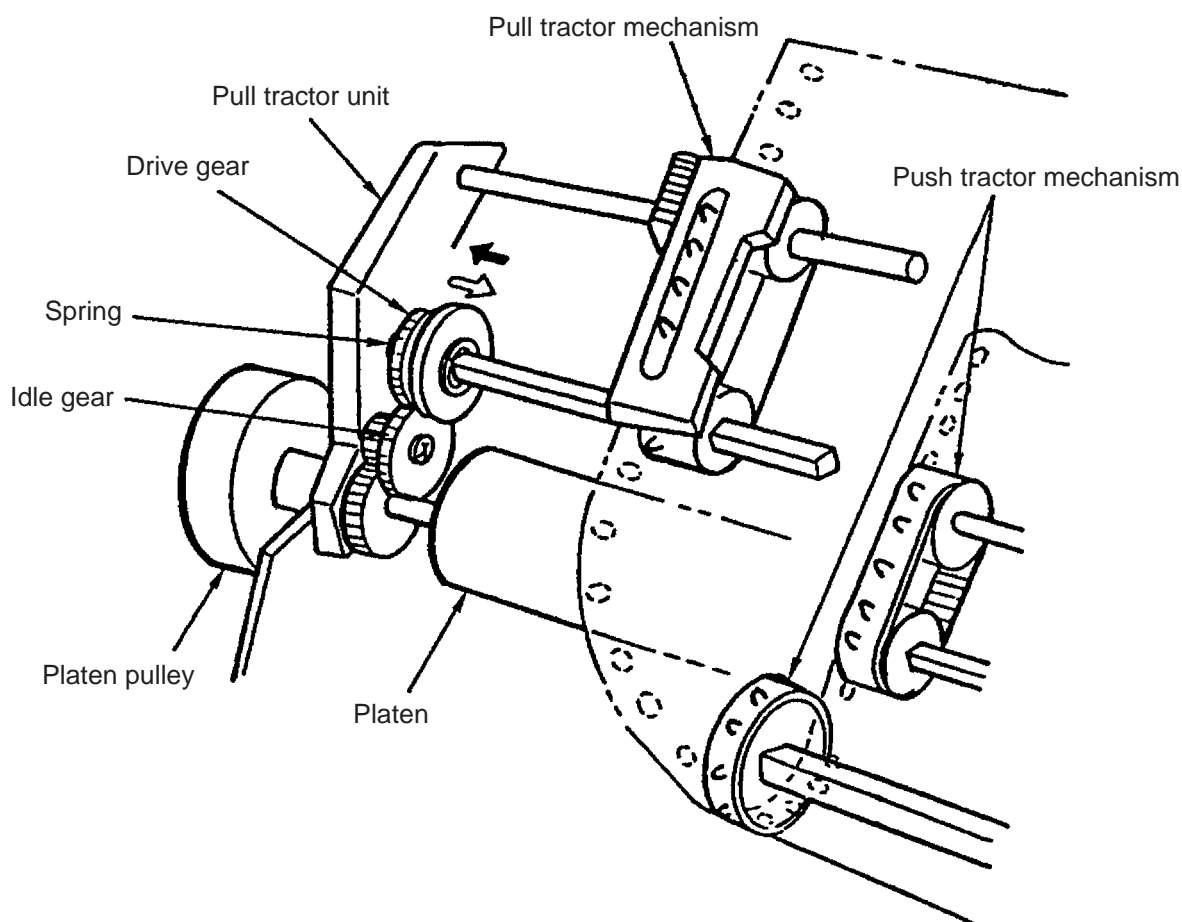

Figure 2-12 Push-puss tractor mechanism
(6) Push-pull tractor mechanism (Option) (See Figure 2-12)